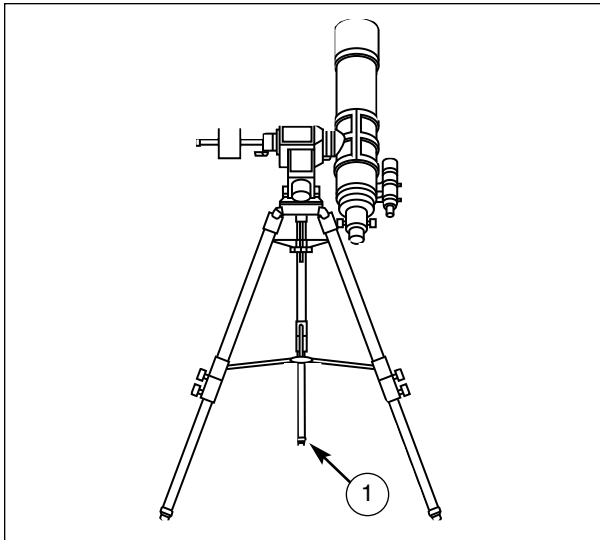

Fig. 7: Aligning the Telescope. (1) Alignment tripod leg.
- Face the field tripod leg (1), Fig. 7, that is centered under the Power Panel, so that the LXD mount points to the approximate North or South Pole star position in the sky (using a simple hand held compass may help). Then, use the Bubble Level located on the base of the LXD mount to level the telescope.
- 6. Loosen the R.A. and Dec lock knobs on the LXJ Equatorial Mount. Position the optical tube assembly so that the Dec Circle reads 90°. Retighten the Dec Lock Knob. Then loosen the R.A. lock knob and rotate the telescope so that the R.A. pointer and the Hour Angle Pointer are approximately in line with each other. This will position the tube assembly and the counterweight so that they are parallel to the ground and the Power Panel is facing the sky, as shown in Fig. 7. This step is necessary for the CDS to work. The telescope has some "illegal" positions (places where the telescope will not go) and these two steps insure proper operation.